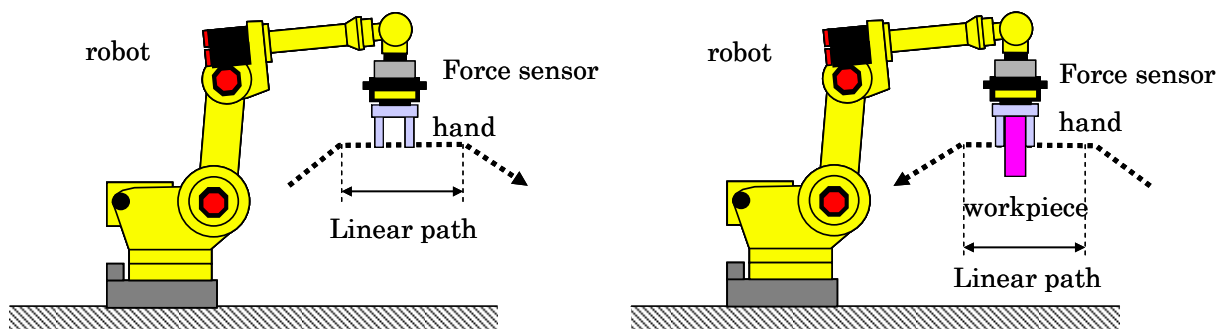

Fig.8.1(a) Basis measurement (without a workpiece) Fig.8.1(b) Mass measurement (with a workpiece)
- 3 Execute “Basis Measurement” when the robot does not have a workpiece (Fig. 8.1(a)).
- 4 Execute “Mass Measurement” when the robot has a workpiece (Fig. 8.1(b)). The workpiece’s mass is automatically calculated and it is written to a register which is designated in “Parameter Setting Screen“. The mass, measurement time, force amplitude, force standard deviation are displayed on “Result Display Screen”. If the mass is not accurate, make a fine adjustment of operation statements. See sections 8.3 and 8.5, “If the Mass is not Right”.